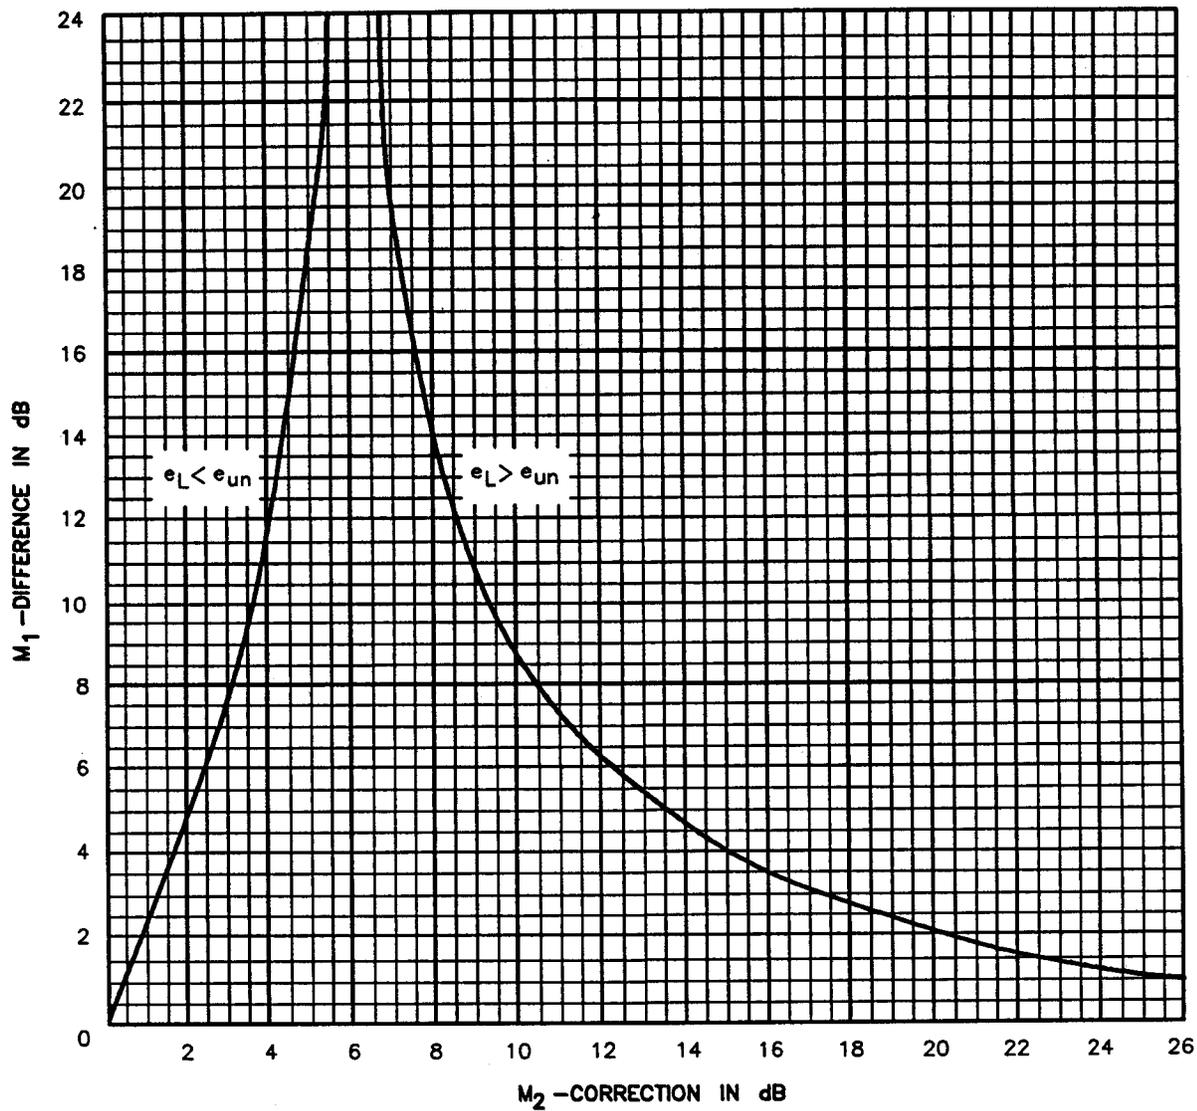

Figure 7 Signal Separation Chart
12. Refer to the Signal Separation Chart in Figure 7. Determine values for M_2 , which are the two correction values to be used. Add the minimum dB indication of step 11 to each correction value (M_2). For example, if the difference in dB (M_1) is 4.9 dB, then entering the graph in Figure 7 at 4.9 dB on the vertical scale, read the two correction values of 2.1 and 13.3 dB on the horizontal scale. Add these values to the smaller of the two dB indications. In our example, the corrected results would be 41.6 dB and 52.8 dB. In this case, since both results are better than the specifications no further tests need be made. However, if one of the corrected results is out of specifications, proceed to the following tests
The chart shown in Figure 7 is used for separating two signals when their sums and differences are known.